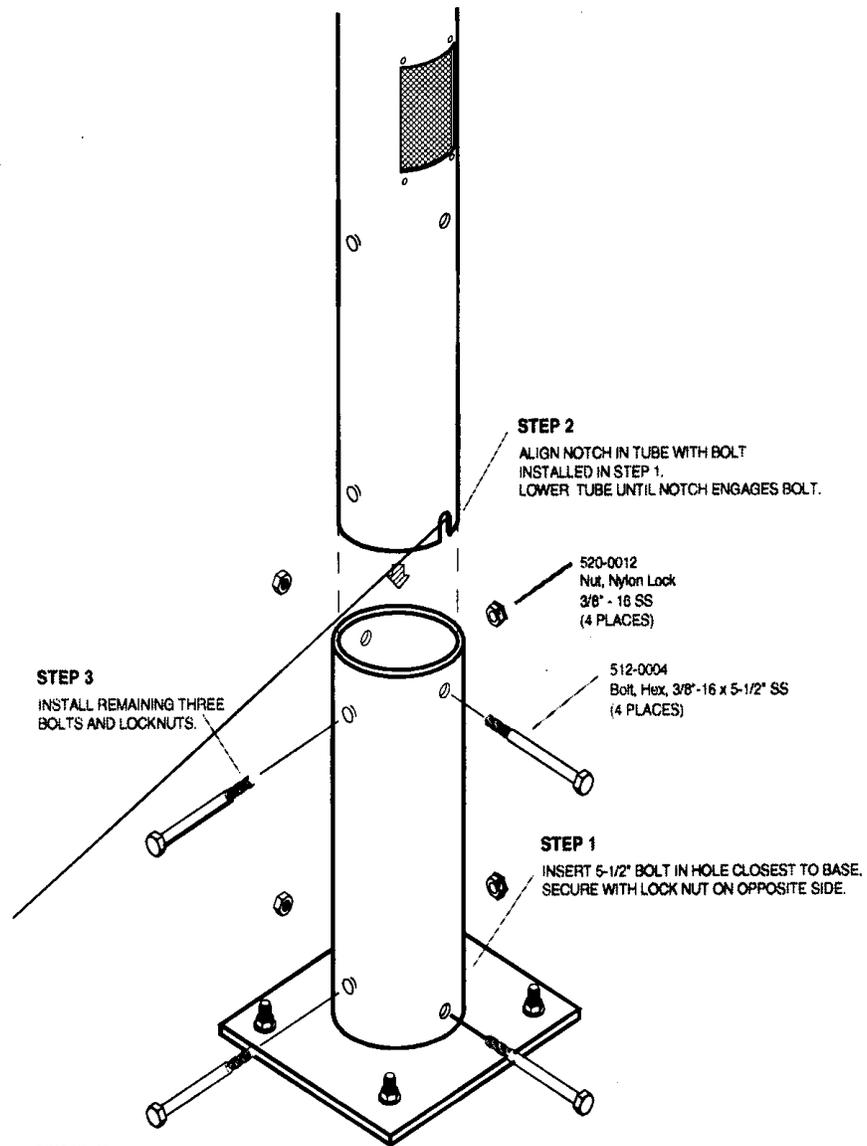

Figure 2: Weather Station Tower Base
- Step 1** Prepare and pour a concrete support slab according to the enclosed drawing, see Figure 2: Weather Station Tower Base. Use the provided template to set the 5/16" mounting bolts. The bracket must be level and plumb. The conduit should extend at least 2 inches above the horizontal plate.